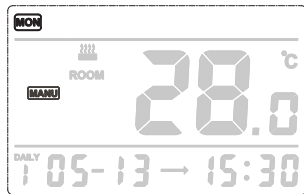

Fig.2
- The DAILY display flashing (Fig.2)